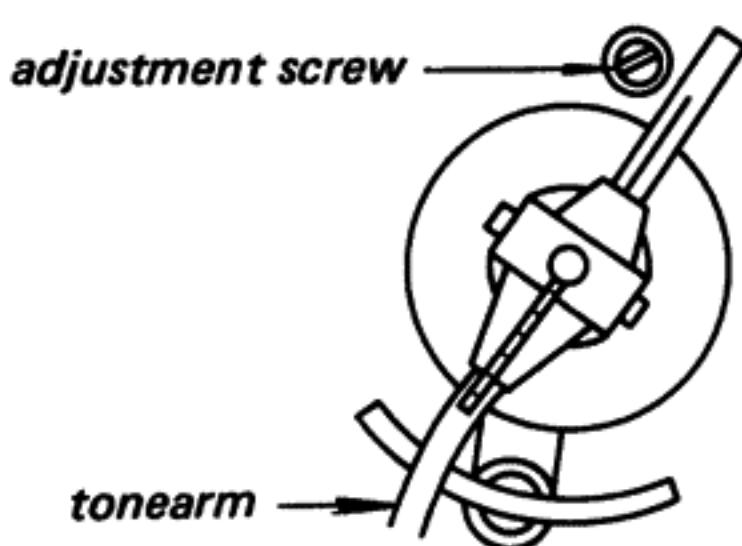

Fig. 3-13. Shutter position adjustment (2)
6. Adjust the position of the shutter by turning the adjustment screw (See Fig. 3-13.) so that the VOM reads $4.5 \pm 0.5 \text{ V}$.
After completing the preceding adjustments (A, B, C), check the automatic return operation by using a record. If it is not working properly, adjust by turning the adjustment screw as shown in Fig. 3-13.